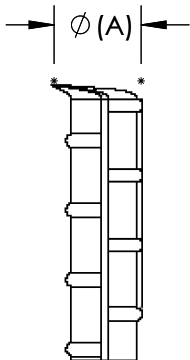

Figure 2
Step 2: Ensure the rebar is free of any excessive dirt, concrete slurry, rust, etc. which may affect product performance. Ensure maximum rebar lip does not exceed limits set in Figure 2. Excessive shear lip interferes with rebar installation.